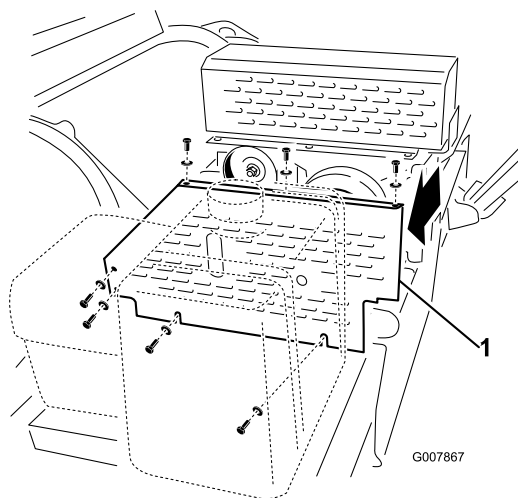

Figure 54
1. Remove the belt cover (Figure 54).
2. Loosen the nut on the idler pulley (Figure 54).
3. Slide the belt tensioning tool between the stud and the idle pulley (Figure 54). Position the radius in
4. Insert the drive of a 1/2 inch torque wrench into the hole in the belt tensioning tool (Figure 54).
5. Rotate the tool counter-clock wise until the torque of 50 inch-pounds is achieved, then, while holding the torque, tighten the idler pulley nut (Figure 54).